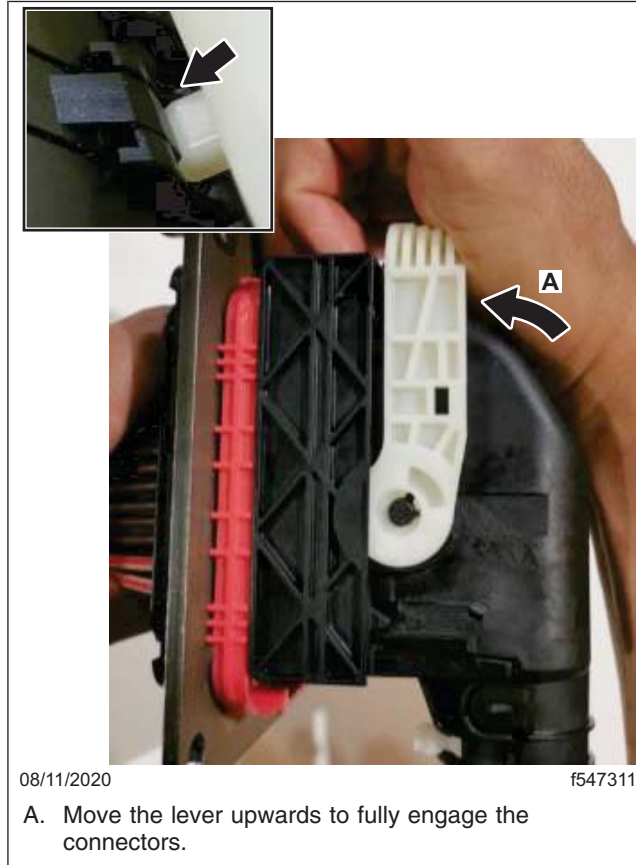

Fig. 12, Locked Connectors
8. Move the chassis harness lever upwards to fully engage and lock the connectors. A locked lever will snap into place on the tab at the top of the chassis harness connector body. See Fig. 12.